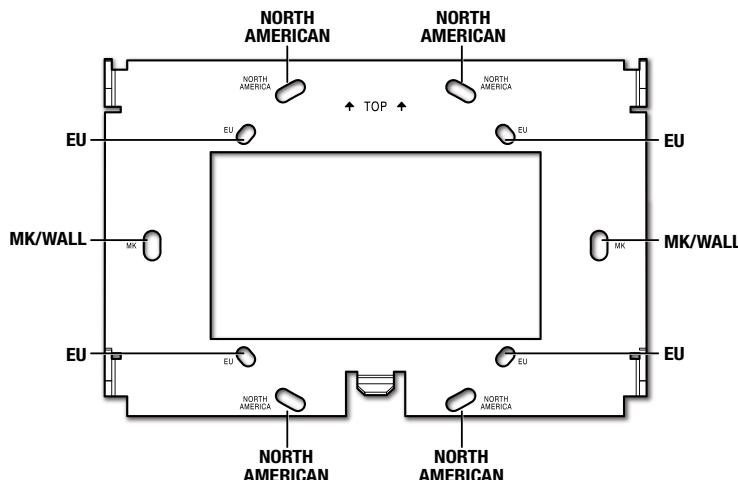

Figure 22. Mounting Plate for Z RTP Pro 725M and 1025M
NOTE: The Z RTP Pro 725M and 1025M mount to a 2-gang junction box. Both of these models use the same mounting plate (see figure 22).
2. Make sure you have the correct mounting plate for your touchpanel and fasten it to the wall box or junction box with the provided screws (②). Use the mounting holes that are appropriate to the junction box you are using (see figure 22 on page 20).
2. Remove the gray area in the center of the template, place the template against the wall or furniture in a suitable location, and ensure that it is level. Use the template to mark the surface cut-out area that is being removed and the location of the MK slots (see **figure 22** on page 20).